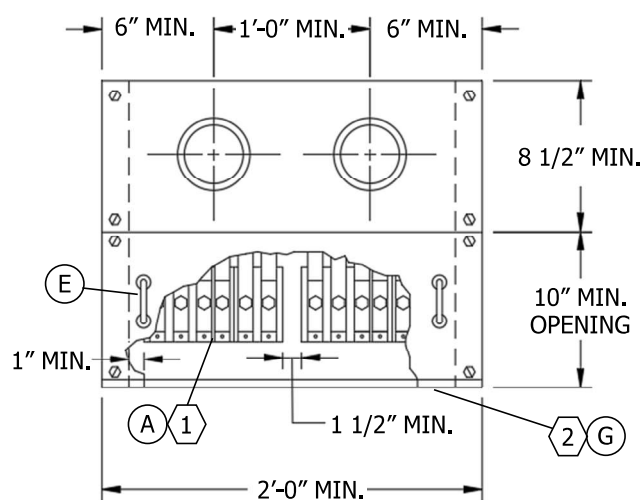

FIGURE 2
- (I) FIELD INSTALLED CONDUCTORS MAY REQUIRE A GREATER DIMENSION BETWEEN TEST-BYPASS BLOCKS AND BARRIER.
- II. MINIMUM ACCESS OPENING TO TEST-BYPASS BLOCKS SHALL BE 11" X 10" FOR FIGURE 1 AND 21 1/2" X 10" FOR FIGURE 2.